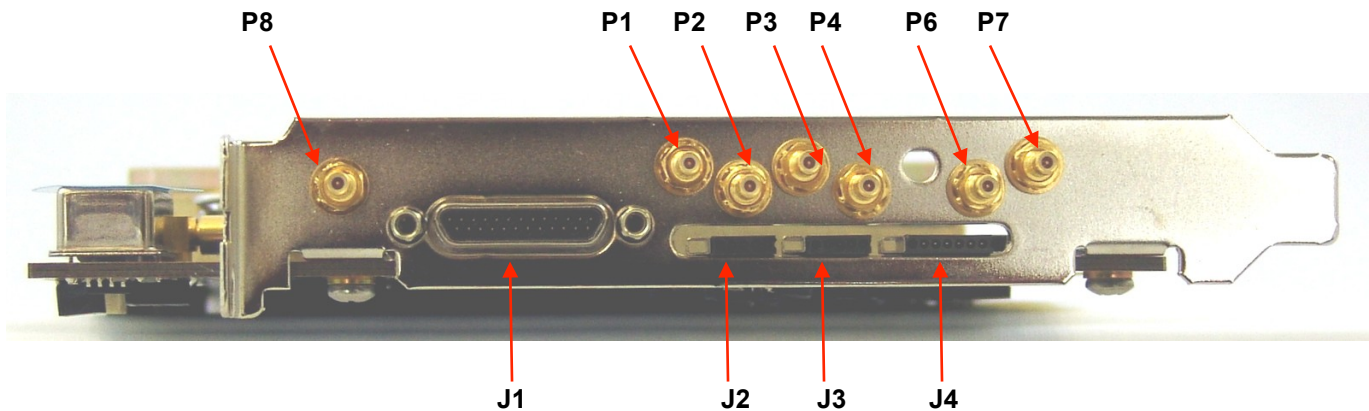
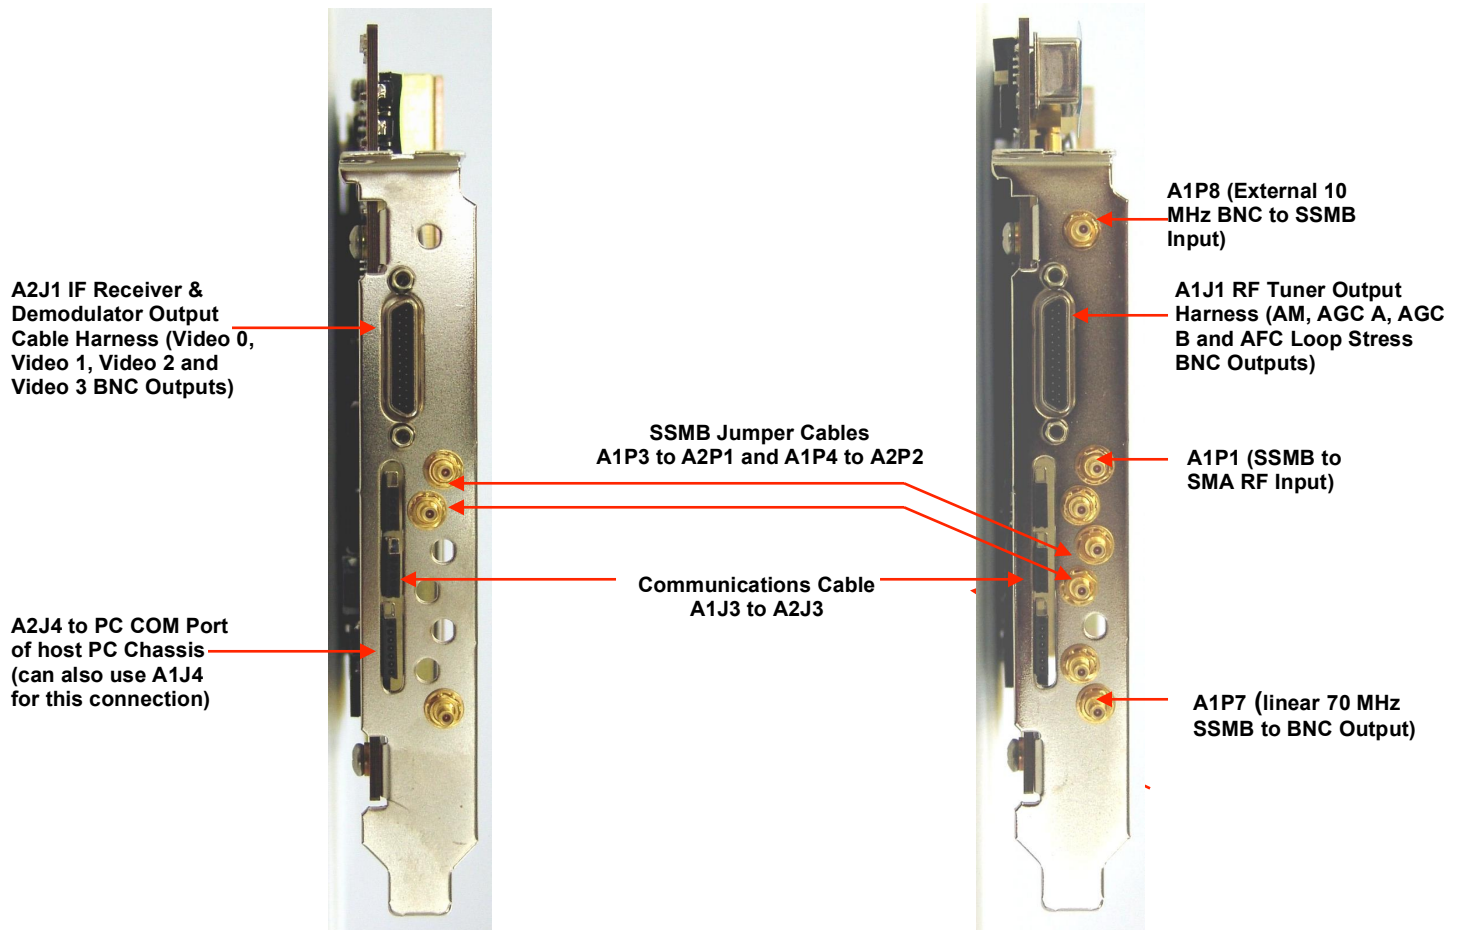

Figure 3-2
Figure 3-4
Figures 3-2 and 3-3 show the edge card bracket of each card and the reference designators for connecting the cable harness set. Figure 3-4 shows the interconnect diagram for the Receiver Card Set.
- B. Referring to Figure 3-4, install all cable harnesses and cables as follows: